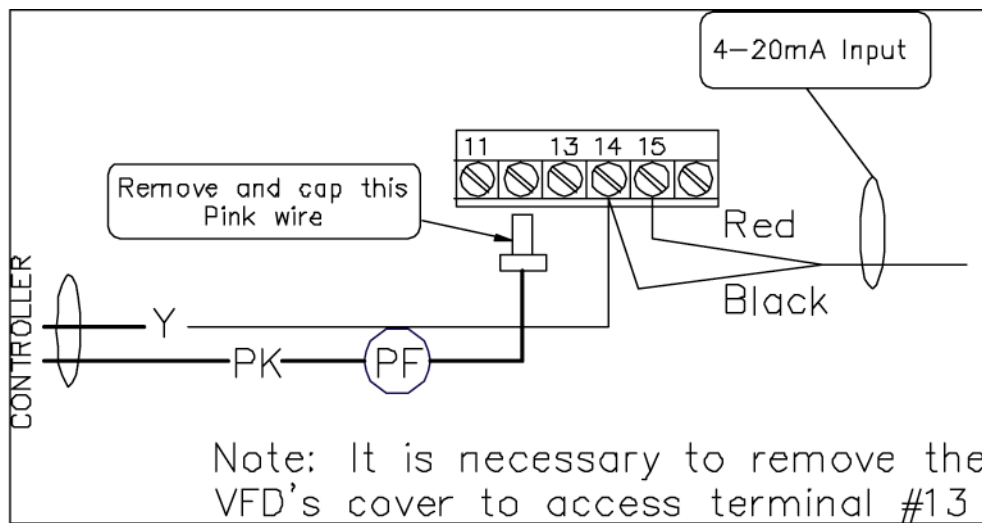

Figure 1: VFD 0 – 10 V (dc) Controller Connection
1. When connecting to a Boiler Control 265, it is necessary to disconnect the 0 – 10 V (dc) controller connection from the VFD terminal 13 and cap-off the pink wire (Figure 1).